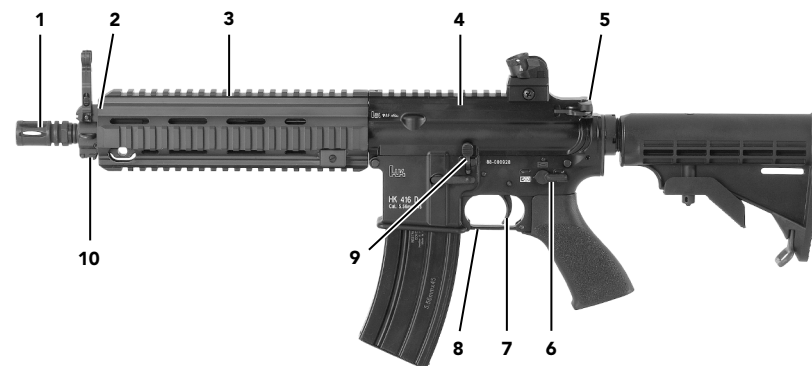

Fig. 1: HK416 D10RS with HK diopter rear sight and MP5 type flip-up front sight, operating controls, left side view
**5.1 External parts nomenclature** (see Fig. 1+2, pg. 9)
- 1. Compensator** – Bird cage style flash hider is screwed to the end of the barrel and helps compensate for muzzle rise during firing. Absence of lower vents also helps reduce the visual signature when firing in dusty conditions (Fig. 1/1).
- 2. Gas Block** – Directs the expended gas from the gas port hole in the barrel and pushes the piston rearward, pushing the piston rod and bolt carrier rearward (defined in more detail in the cycle of operation). Contains two sling attachment points (left and right), bayonet lug, and an attachment point for the HK folding front sight. The HK AG416 40 mm x 46 Add-On Grenade Launcher can also be attached to the gas block (Fig. 1/2).
- 3. Free Floating Rail System (FFRS)** – The HK FFRS is a free-floating detachable rail system with 4-quadrant MIL-STD 1913 rails that can hold a variety of accessories from a forward grip, scopes, sights, visible lights, infrared laser pointer and illuminator, bipod and many more options to include the HK AG416 Grenade Launcher (Fig. 1/3). The bore sight alignment of Aiming Devices is repeatable (no rezeroing required) when the Free Floating Rail System is removed and reinstalled on the weapon.
- 4. Upper Receiver** – The upper receiver is a flat-top design with an integral MIL-STD 1913 rail that provides support for the barrel, FFRS, gas system and bolt carrier assembly. It has a case deflector and ejection port. It connects to the barrel and barrel socket. The piston rod is guided through the upper receiver by a bushing and activates the bolt carrier. The charging handle is a part of the upper receiver as is the forward assist and ejection port cover. The upper receiver is made from an aluminum forging (Fig. 1/4).
- 5. Charging Handle** – Allows the operator to chamber or clear a round and cock the weapon. It also provides for initial charging of the weapon. The charging handle is locked in the forward position during firing to prevent injury to the operator (Fig. 1/5).
- 6. Selector Lever** – Allows the operator to select the mode of fire and place the weapon on safe. The selector lever is manually activated and to be switched to safe, the hammer must be cocked. A white indicator line located on the right side of the selector lever axle indicates the firing mode selected from the right side of the weapon (Fig. 1/6).
- 7. Trigger** – When activated by the operator, initiates the firing sequence. Located inside the lower receiver, the trigger when squeezed with the weapon loaded and off “SAFE” will fire the gun, “SEMI-AUTOMATIC” will fire one round each time the trigger is pulled and “AUTOMATIC” will fire continuously until the trigger is released or the magazine is empty (Fig. 1/7).
- 8. Trigger Guard** – The trigger guard protects the trigger. It can be lowered by depressing the detent with a pointed implement so heavy gloves can be used (Fig. 1/8).
- 9. Bolt Catch/Bolt Release** – The bolt catch/release is manually operated. When the bolt carrier is pulled fully to the rear, the bottom of the bolt catch/release is pressed by the operator and then the bolt will be captured. To release the bolt, simply press the top of the bolt catch/release. The bolt catch/release is also automatically activated when firing the last round in a magazine (Fig. 1/9).
- 10. Bayonet Lug** – The bayonet lug is the U.S. Standard and is used for attaching a bayonet to the weapon and also as an attachment point for the HK AG416 40 mm x 46 Grenade Launcher (Fig. 1/10).